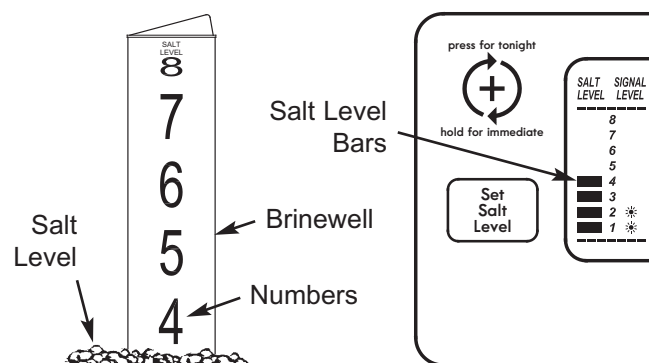

FIG. 26
2. The salt level scale, on the brinewell inside the tank, has numbers from 0 to 8 (see Fig. 26). Observe the highest number the leveled salt is at, or closest to.
3. Press the SET SALT LEVEL button as many times as necessary to make the salt level bars in the display (see Fig. 26) match the number on the brinewell. At level 2 or below, the Status Light will flash (See Page 13).